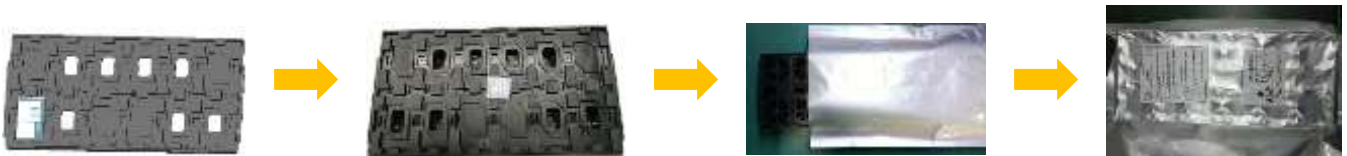

Figure 4-2. Stacking of Trays
Refer to Figure 4-2 for stacking of trays. Plastic trays (③) are stacked into 11 layers. Put Activated Clay (⑤) at the top and bottom of tray (1 pcs for each), and then put 8 trays into one Foil bag (④). Put the Wet sensitive identification card (⑦) into the Foil bag (④). The packaging capacity of Foil bag (④) is: $12 * 7 = 84$ sets of SOM.